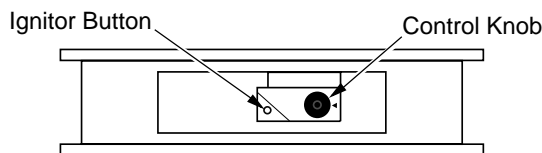

Figure 21 - Control Knob and Ignitor Button Location
4. Wait five (5) minutes to clear out any gas. Then smell for gas, including near the floor. If you smell gas, STOP! Follow "B" in the safety information, above. If you don't smell gas, go to the next step.
5. Turn control knob counterclockwise  to the PILOT position. Press in control knob for five (5) seconds (see Figure 21, page 14). **Note:** You may be running this heater for the first time after hooking up to gas supply. If so, the control knob may need to be pressed in for 30 seconds or more. This will allow air to bleed from the gas system.